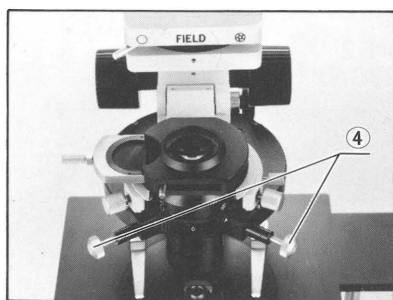

Fig. 10
- 5) Press the light annulus centering knobs ④ and rotate them until the light and phase annuli are concentric and superimposed, then slowly disengage the centering knobs ④. (Fig. 10)